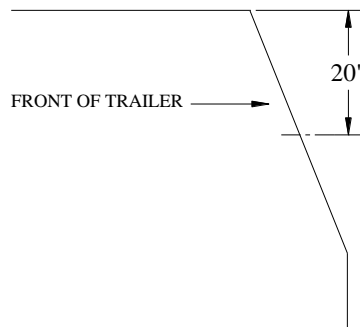

Figure 20
1. From the top of the trailer, measure straight down 20" and put a mark on the front and rear face of the trailer. Refer to the figure 20 below.